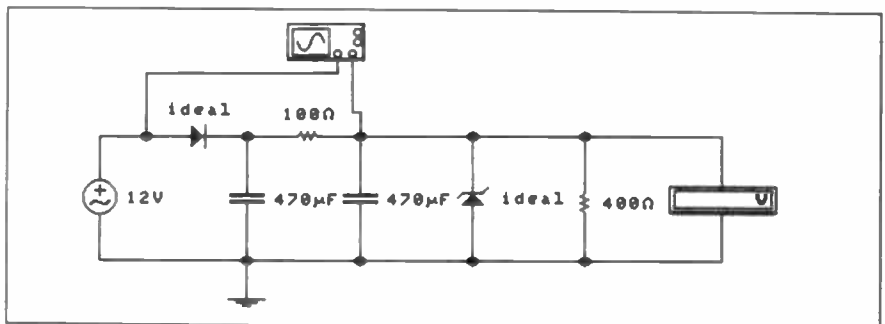

Fig. 3.21 Half-wave rectifier with smoothing filter and Zener diode regulator (Assignment 3.3).
8. Finally, add a 5.1V Zener diode in order to regulate the output voltage (see Fig. 3.21). Record the measured value of output voltage and peak-peak ripple voltage.